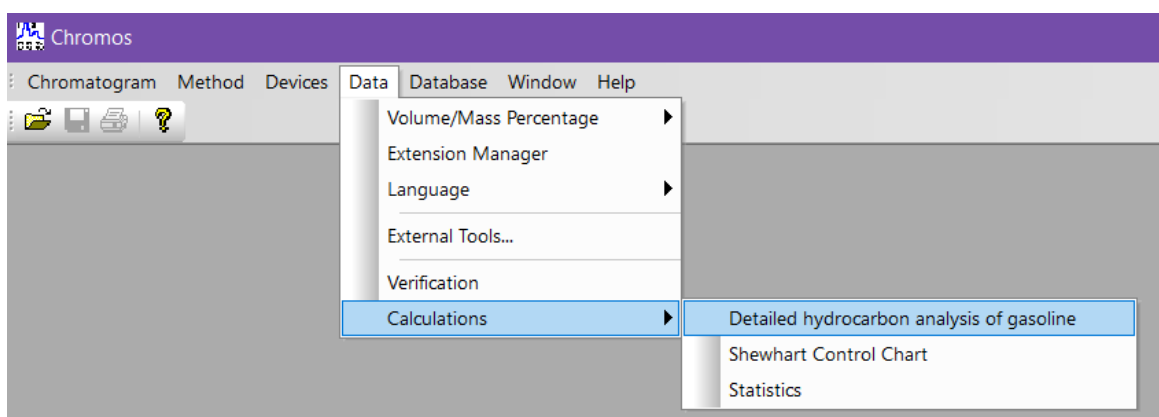
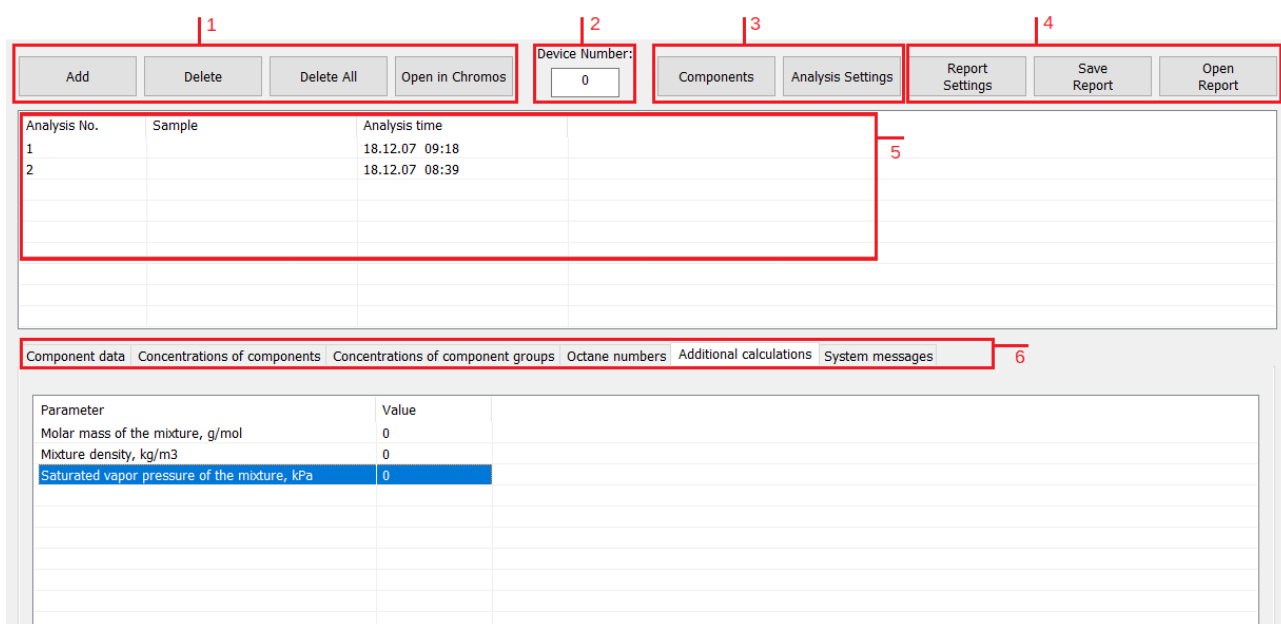

Fig. 1. Running the plug-in from Chromos SW
Fig. 2. Main program window
3. In the *Data* menu, navigate to **Calculations** > **Detailed Hydrocarbon Analysis of Gasoline** (Fig. 1). The main program window opens (Fig. 2).
The main program window (Fig. 2) contains the following elements: